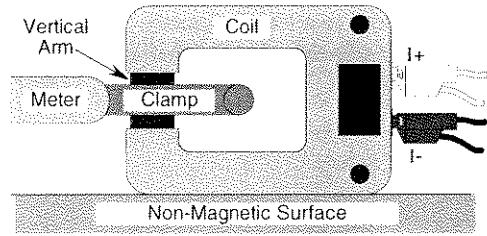

Fig. 6.4 Position of Clamp
- *Fig 6.4.* With the coils located on a non-magnetic surface (not the work mat, as it has a steel core), place the clamp in position so that it surrounds the vertical arm of the coil. Keep the clamp mid-way up the vertical arm, and away from the corners.